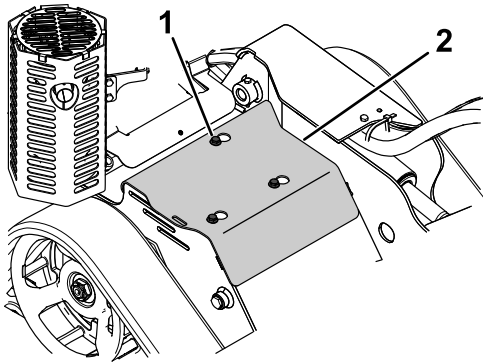

Figure 23
3. Loosen the 3 bolts securing the cover plate to the frame sequentially until the cover is loose (Figure 23).
1. Bolt (3)
5. To install the cover plate before operating the machine, slide the plate into place and tighten the 3 bolts you loosened previously (Figure 23).